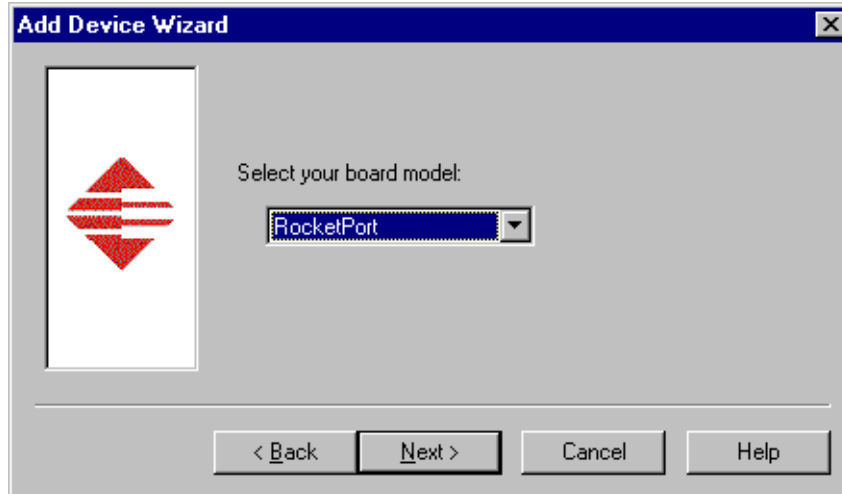

Figure 5. Select RocketPort board model.
9. Select RocketPort as the board type (see Figure 5), then click **Next**.